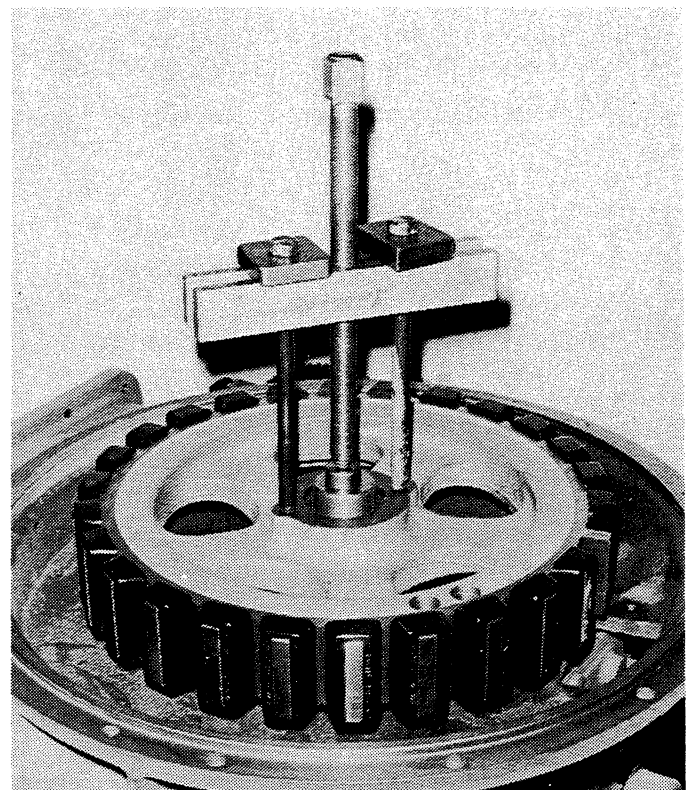

Figure 6-29. *Removing Drive Spider Assembly.*
12. Use a puller to remove the drive spider (Figure 12-2, 40). See Figure 6-29.